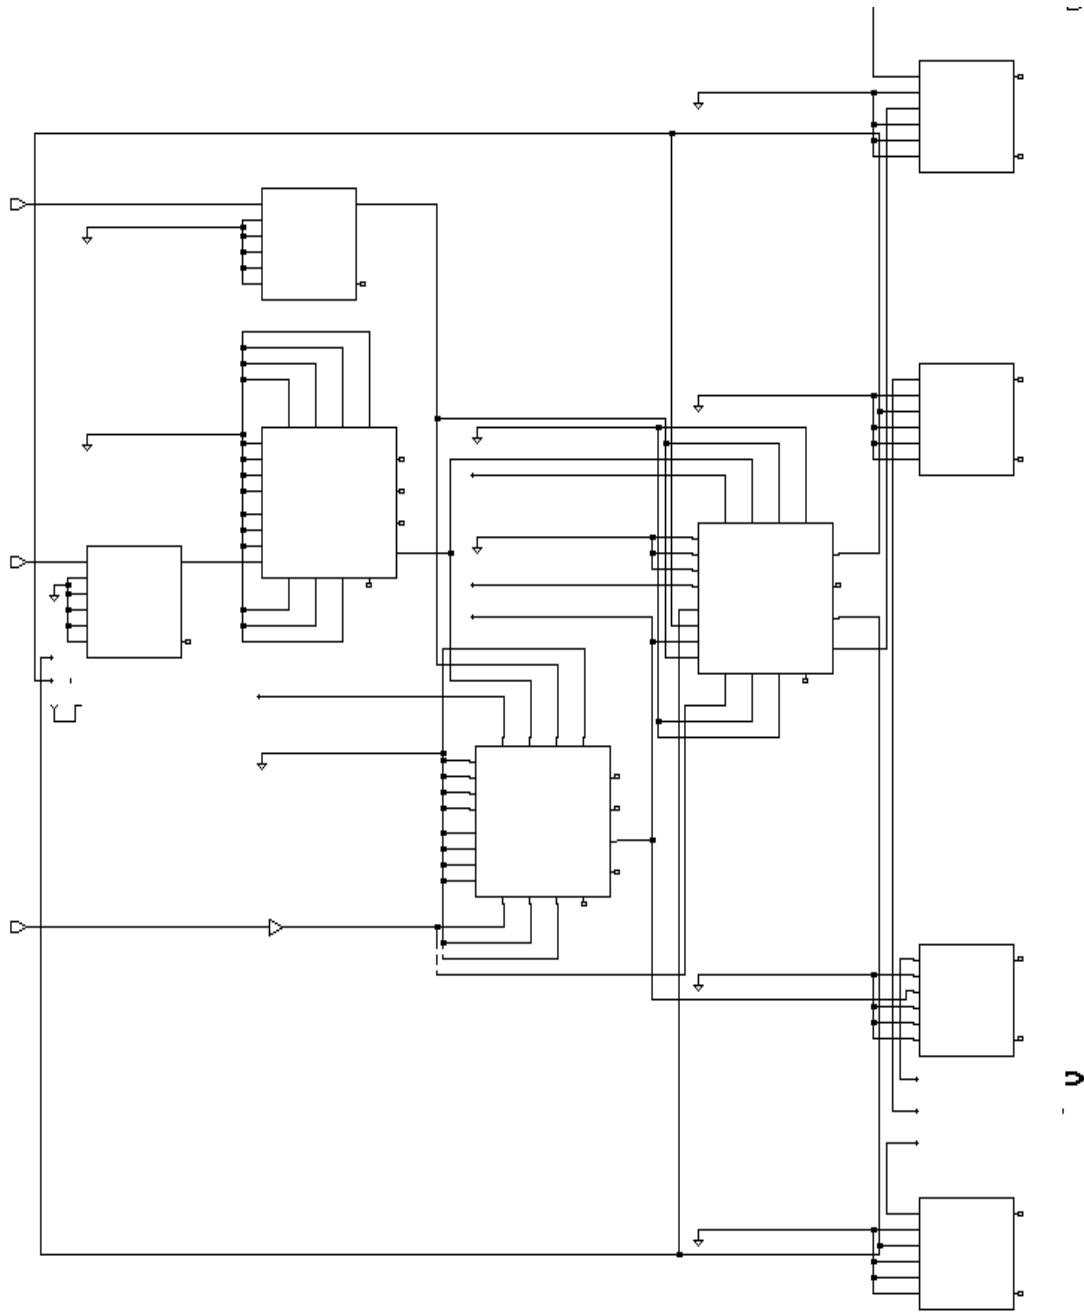

Figure 23: Count3 design before replace_fpga.
(4) Use the Design analyzer to view the two results (before and after replace_fpga). Can you identify the fpga resources used? Figures 23 and 24 give the results of the synthesis.